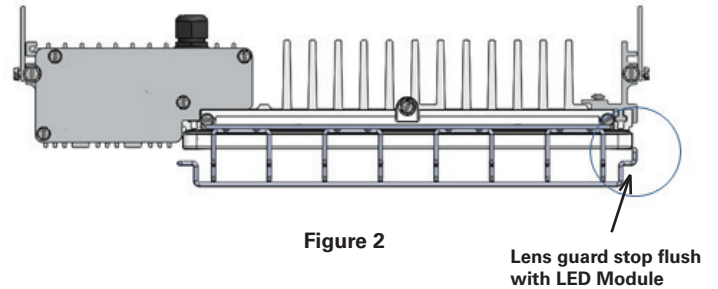

Figure 2
2. Slide the lens guard until lens guard stop is flush with the LED module as shown in Figure 2.